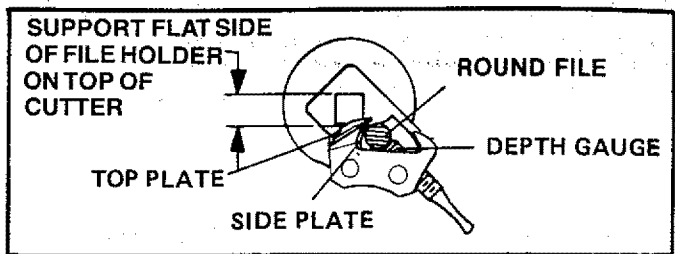

Figure 19
4. Support file holder with 5/32" round file on cutter top plate and depth gauge. Figure 19.